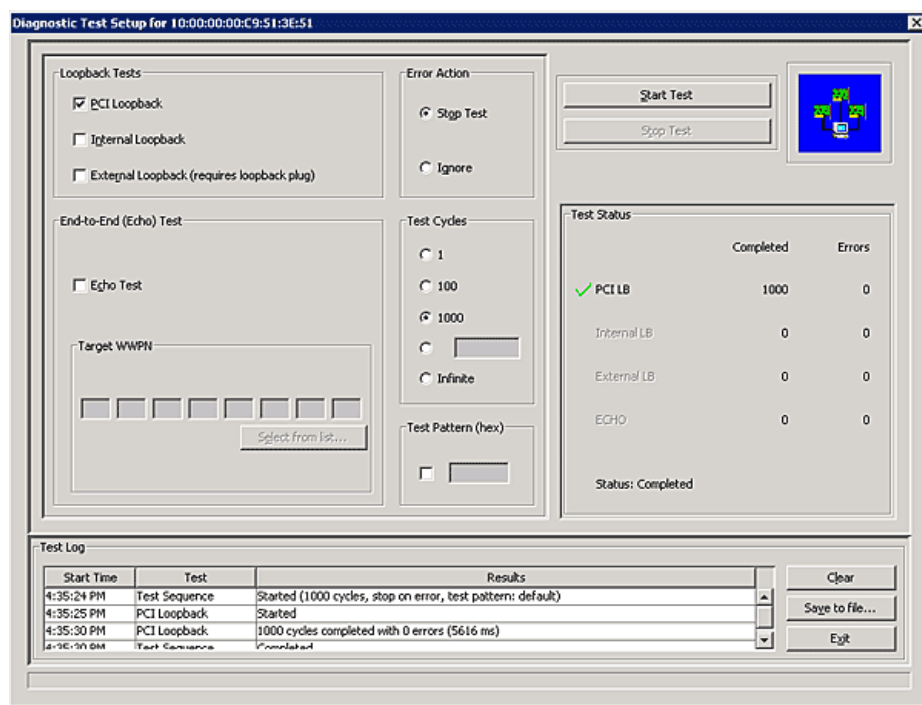

Figure 13-8 Diagnostic Test Setup
2. Browse to the desired directory, change the log file name if you want and click **Save**. See Figure 13-8.